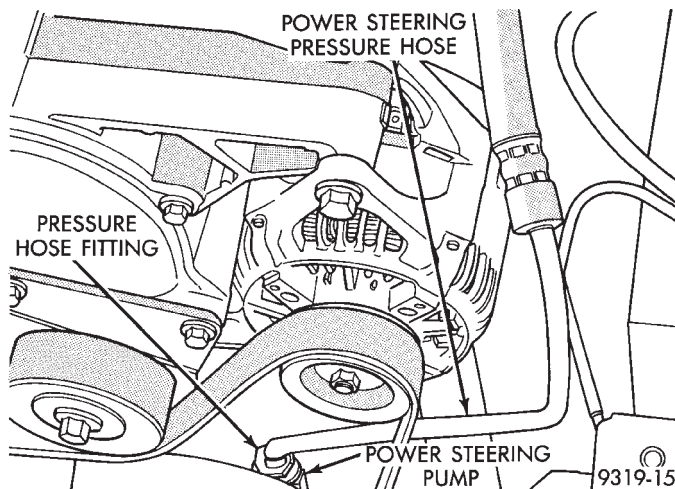

Fig. 2 Power Steering Hose To Power Steering Pump Fitting
- (2) Position drain pan under vehicle for leaking power steering fluid. Loosen and remove power steering pressure hose fitting (Fig. 2) from outlet fitting of the power steering pump. Let power steering fluid drain from hose.
- (3) Remove power steering pressure hose assembly from the vehicle.
- (4) Discard O-ring at end of tube and/or the washer seal.
(1) Using a lint free towel, wipe clean the open power steering hose ends, power steering pump and steering gear ports.
(2) Install new O-rings and/or washer seals on the ends of the power steering hoses. Lubricate O-rings or washer seals using fresh clean power steering fluid.
(3) Install power steering pressure hose into outlet fitting of the power steering pump (Fig. 2). **Do not tighten power steering pressure hose to power steering pump fitting at this time.**
(6) Route power steering pressure hose at power steering pump so it is not in contact with any engine or body components (Fig. 2). Then torque power steering pressure hose to power steering pump fitting to 31 N•m (23 ft. lbs.).
(7) Start engine and turn steering wheel several times from stop to stop to bleed air from fluid in system. Stop engine, check fluid level, and inspect system for leaks. See Checking Fluid Level.